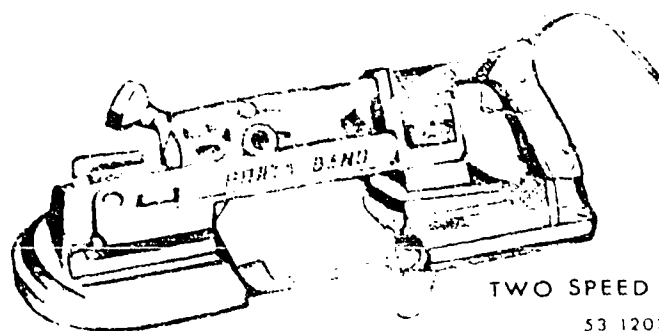

Figure 1-13. Porta-band saw.
**Portable Power Saw.** There are several types of portable power saws on the market. We discuss only one, the two-speed Porta-band, shown in figure 1-13. This is a 110-volt 60-cycle electric power bandsaw that is as portable as any electric drill. This item, if used properly, may save many hours, both on the job and in the shop. The blade is installed with the teeth pointing toward the work rest. To select the proper blade, follow the same rules as you do for a hand hacksaw. For most cuts, use the high speed, and for problem cuts use the low speed. To make a cut with a Porta-band saw, position the item to be cut so that it touches both the blade and work rest. Next, lift the saw just enough to raise the blade off the work and depress the switch trigger, then let the weight of the saw do the cutting. Keep the work rest against the work. A slight pressure may be needed on some jobs. Too much pressure results in an improper cut.